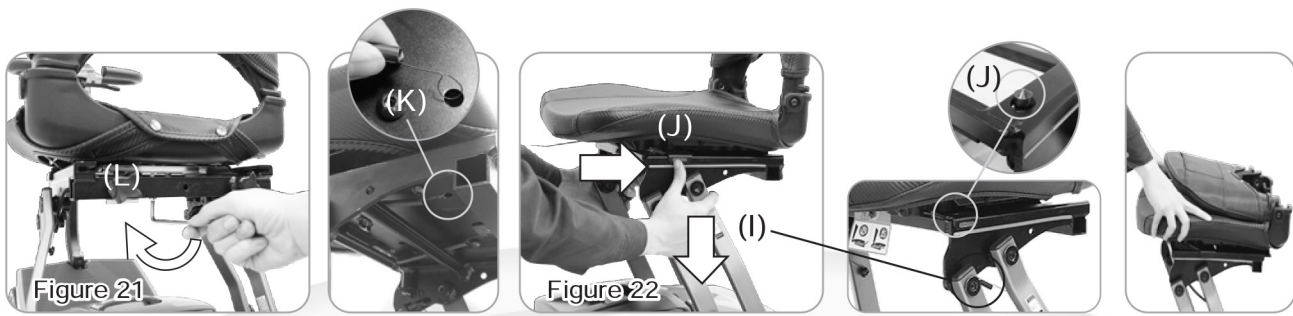

Figure 20
- Do not get on the scooter if the seat is positioned in red point(H). Get on the scooter only if the seat is locked in its position green point (Fig.20)